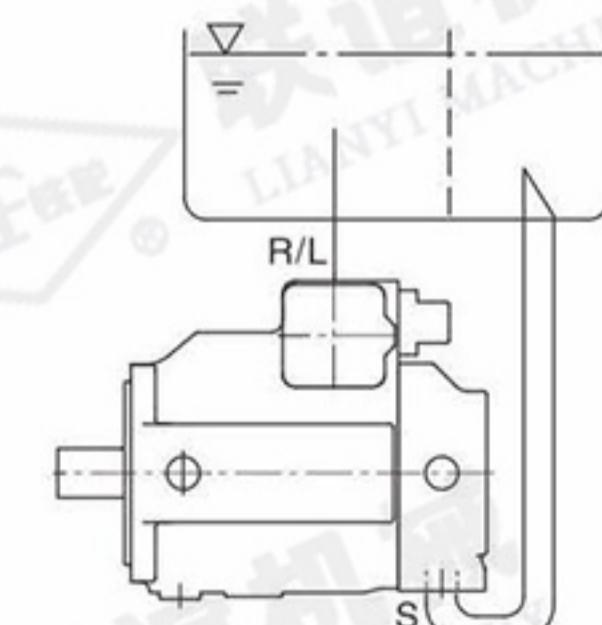

图5
b) 如安装在油箱之下, 《R/L》和《S》口用管道连接, 如图5所示。
For mounting under the tank, port R/L and S must be connected with pipes, as shown in Figure 5.